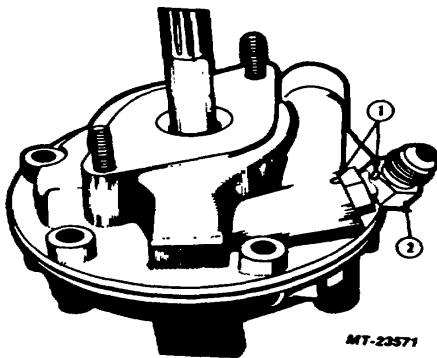

Fig. 14 Mark Fitting Location
6. Mark position of discharge fitting in housing to provide proper positioning during reassembly, Figure 14. Loosen but do not remove discharge fitting.